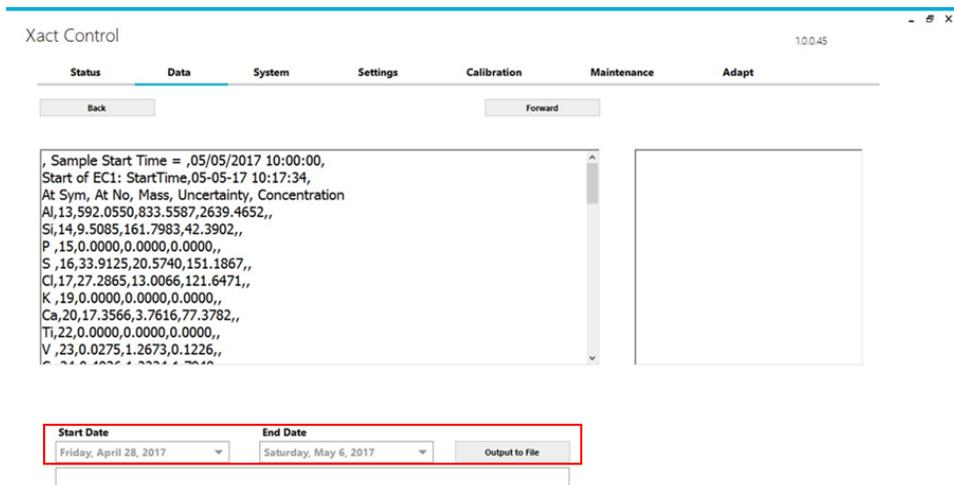

Figure 7.3 Xact Control data page.
viewed/downloaded by navigating to Data page (Xact Control >> Data) (**Figure 7.3**). The “Back” and “Forward” navigation buttons enable viewing of archived ambient datasets.
- 7.9.5 Further data analysis can be performed by exporting the data in the comma delimited file (.txt) using the data page (Xact Control >> data) (**Figure 7.3**). The user desired sampling period can be selected using the “Start Date” and “End Date” boxes. The text box at the bottom of the screen displays the folder directory path for accessing the downloaded dataset.